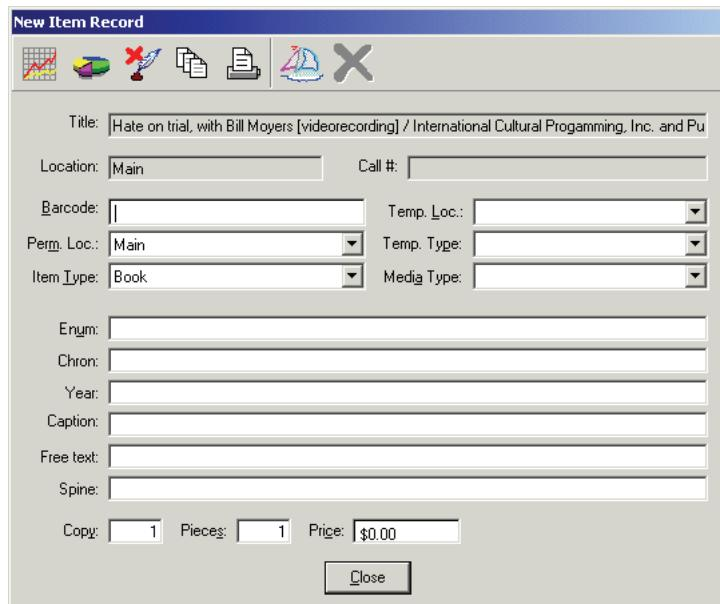

Figure 10-4. New Item Record dialog box
- If the **Automatically create at Receive** check box is not selected on the **Item Creation** tab of your Session Workflows, an item record is not automatically created. However, after a line item copy has been received, you can select the copy from the hierarchy and click the **Item** button to create an item record. The **New Item Record** dialog box opens (see Figure 10-4).